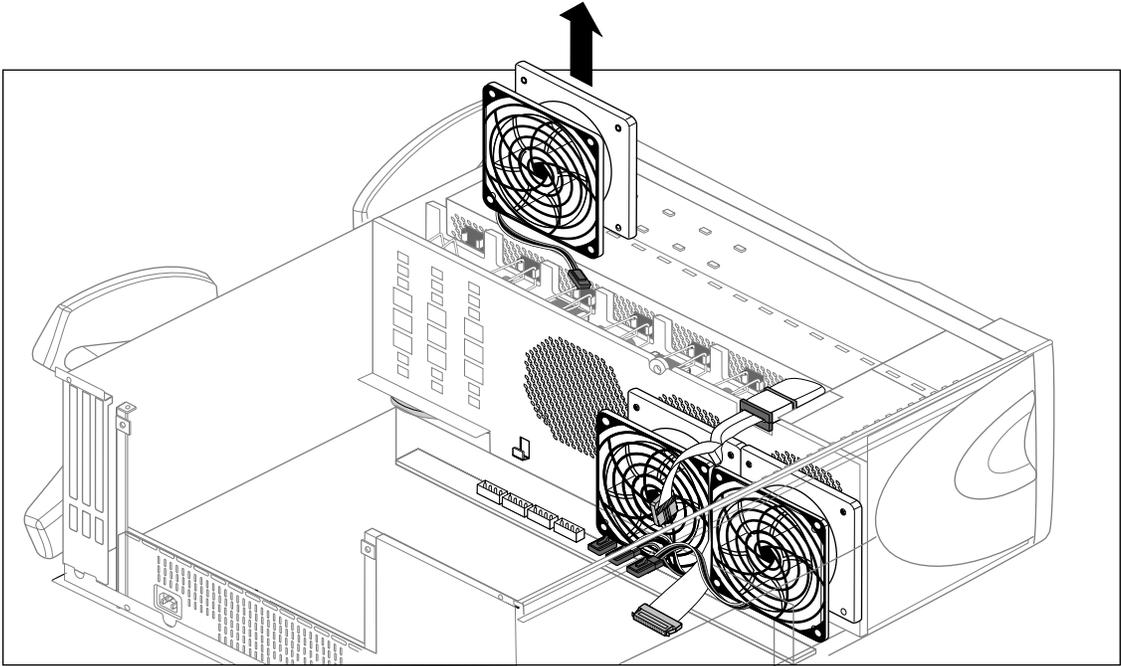

Figure 9-4 Removing the Fan From the System
- 3. Lift the fan out of the system, as shown in Figure 9-4.